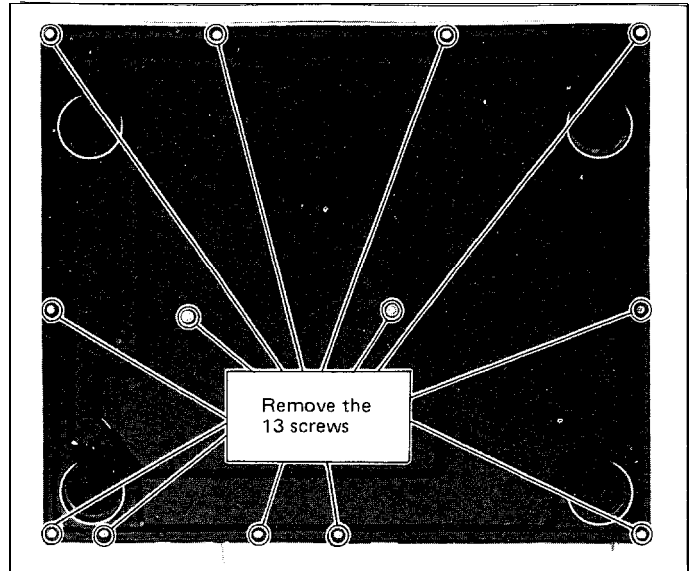

Figure 4-1
■ **REMOVAL OF BOTTOM PLATE** (Refer to Figure 4-1)